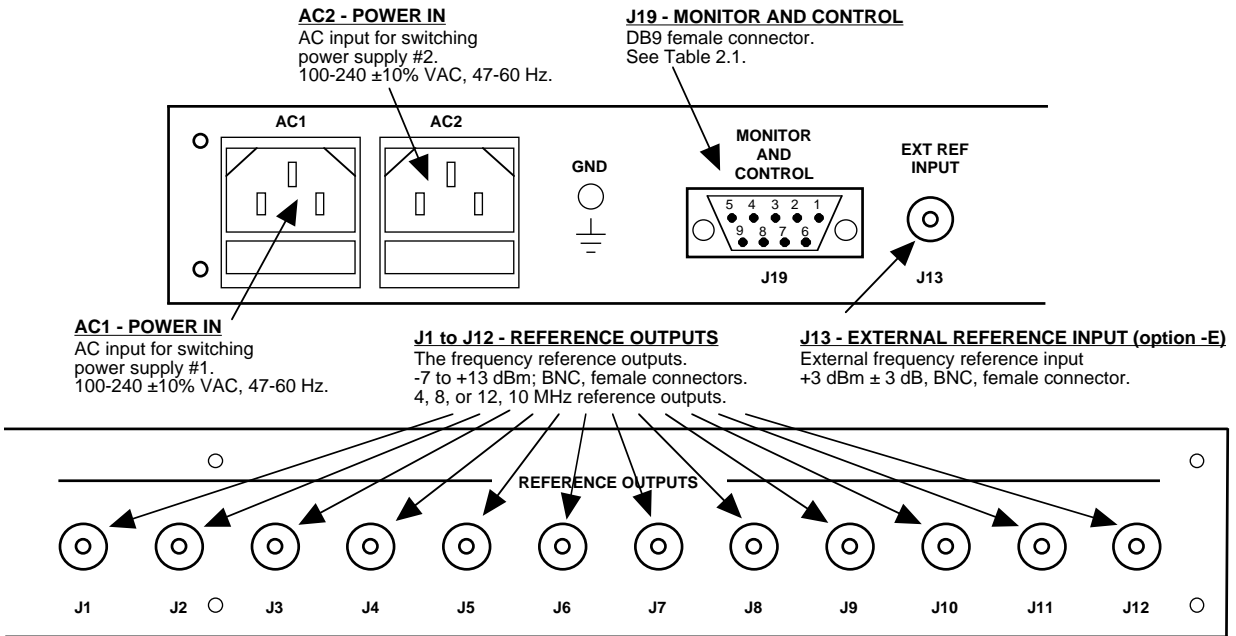
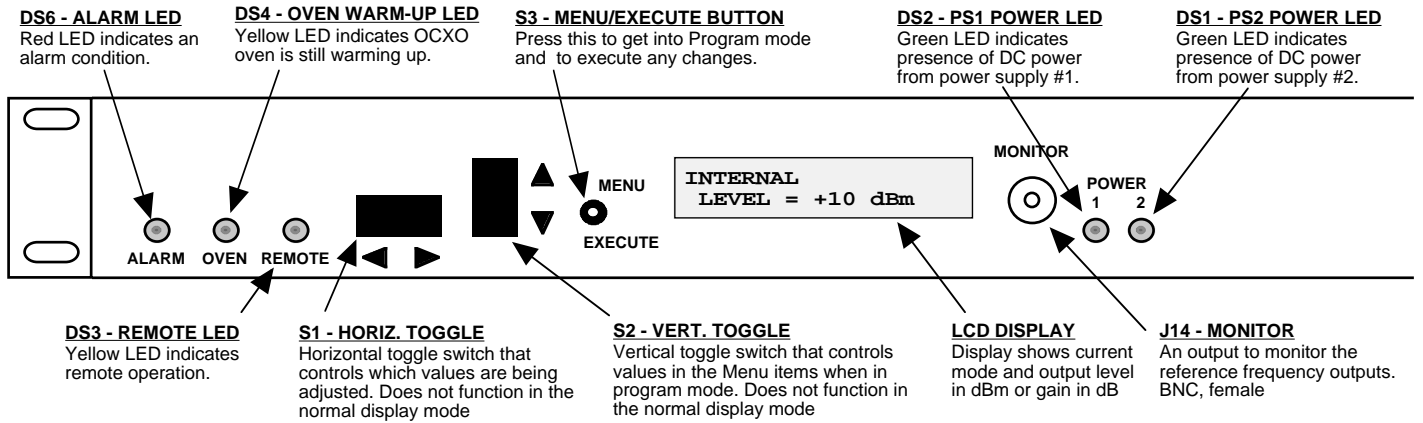

FIGURE 2.1 2099-25xx Rear Panel Outputs
FIGURE 2.2 2099-25xx Front Panel Controls and Indicators
***FAULT occurs when in EXT LOCK AUTO mode and the external reference fails. This status can be reset remotely using the command in Table 1.2 or manually by pressing Menu/Execute followed by pressing up once or down once on the vertical toggle switch on the front panel (see Figure 2.2).**
2.2 Rear Panel Output Signals - Figure 2.1 shows the input and output connectors on the rear panel.
1. Connect 100-240 \pm 10% VAC, 47-63 Hz to AC1 and AC2 connectors (Figure 2.1).
2. Be sure DS1 and DS2 LEDs (green, POWER) are on (Figure 2.2).
5. (option -E only) Choose one of the five (5) modes (Internal, Ext Pass, Ext Pass Auto, Ext Lock, or Ext Lock Auto) in which to operate the unit.
7. Connect J1 thru J4 (REFERENCE OUTPUTS) to desired equipment (Figure 2.1).
8. Monitor reference output signal with J14 (MONITOR) (Figure 2.2).
Alarm indications appear on the LED (see Figure 2.2).